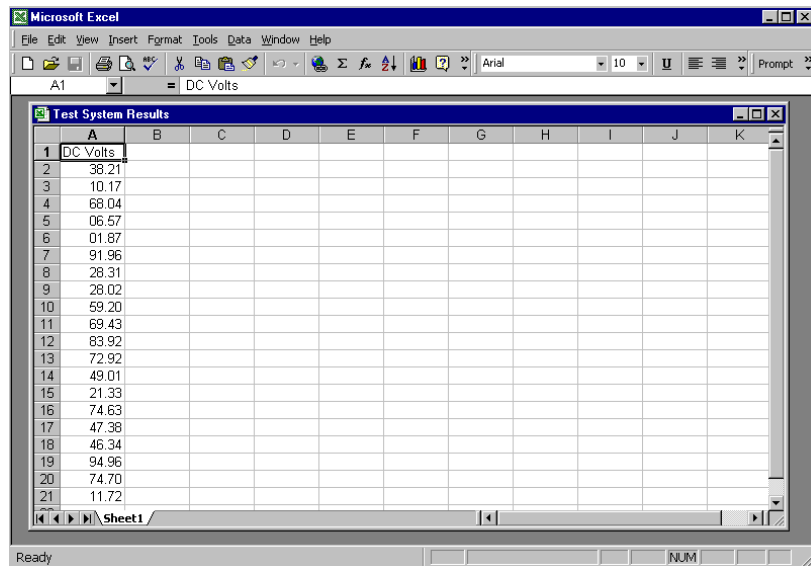

Figure 6-9. Excel Worksheet for "Results Average" Program
11. Save the program as `results_average.vee`. Run the program. MS Excel will launch with a worksheet like the one shown in Figure 6-9.